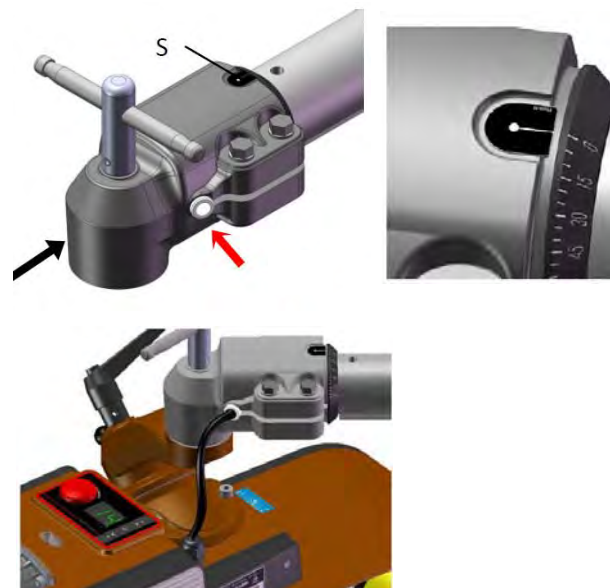

Fig. 20: Cable bushing and sticker
Step 5: Pass the motor connection cable through the opening on the arm (arrow, Fig. 20). Apply the sticker S to the arm, first clean the adhesive area with alcohol. Align the adjustment ring with the zero line, then tighten screw M4.